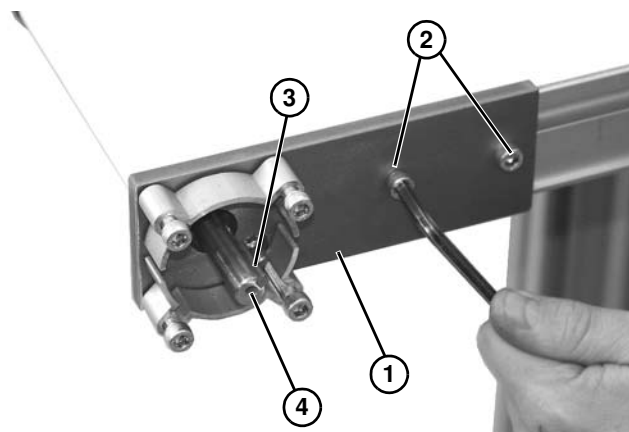

Figure 4
4. Install drive plate (Figure 4, item 1) with two screws (Figure 4, item 2). Tighten screws to 60 in-lb (7 Nm).
5. Making sure key (Figure 4, item 3) is installed in slot in gear reducer output shaft assembly (Figure 4, item 4).